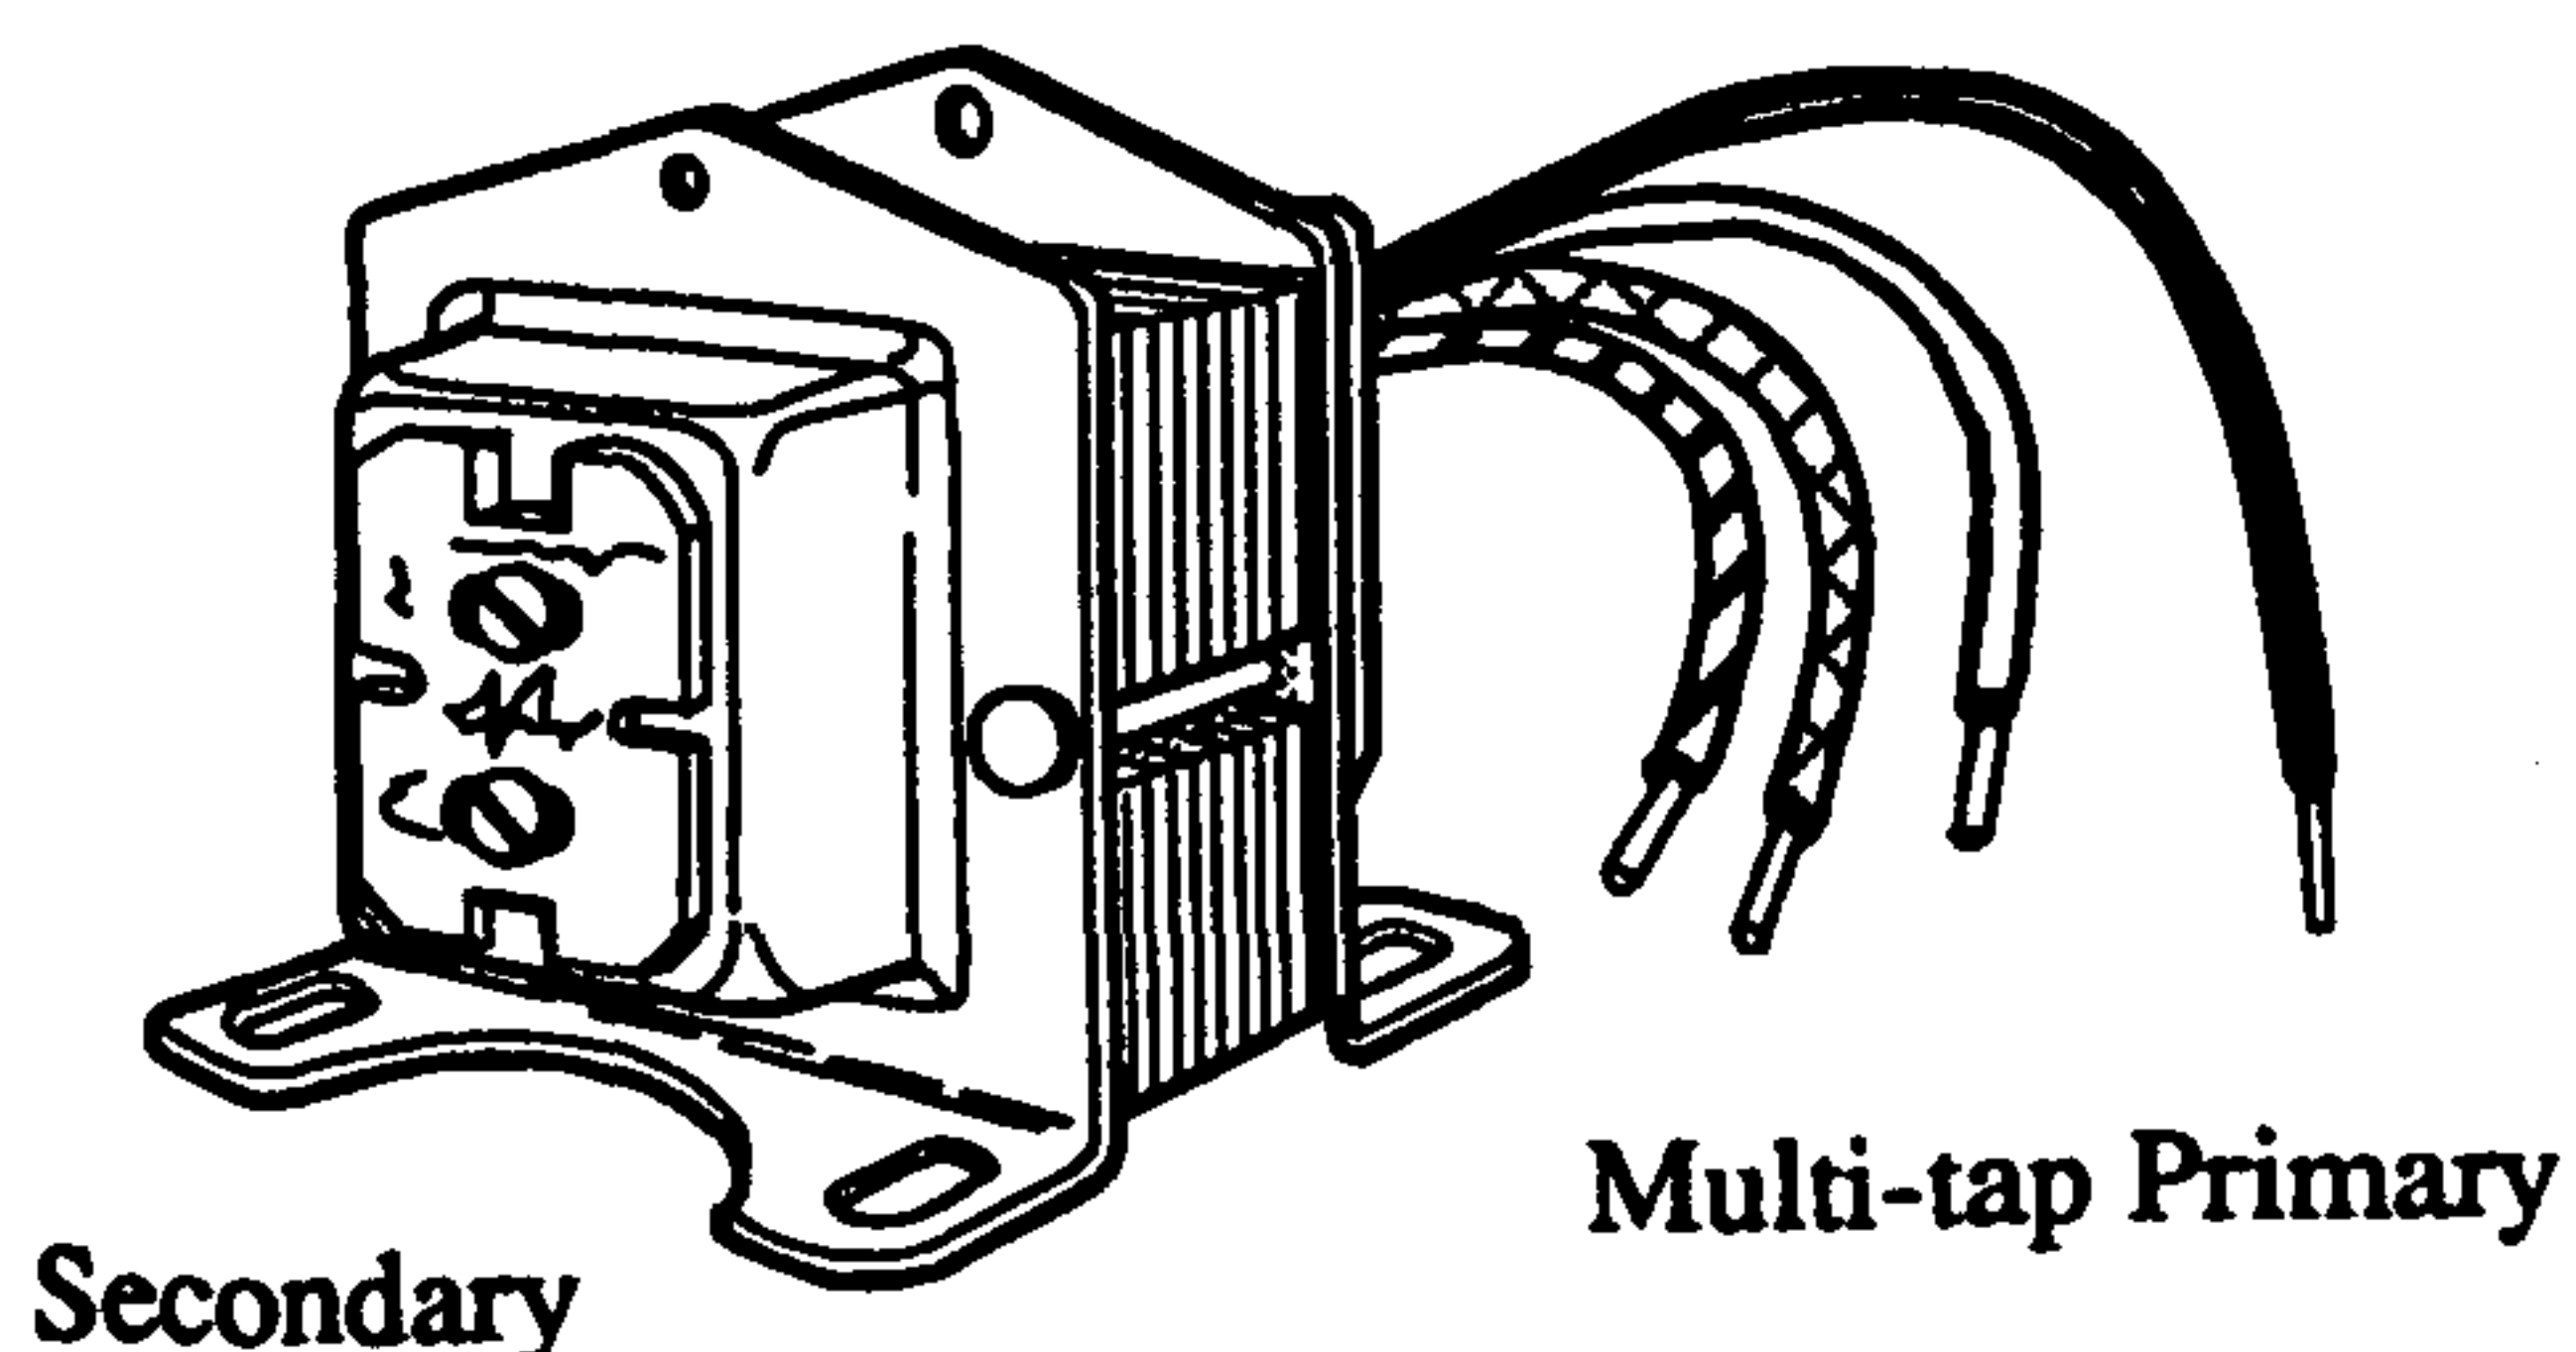
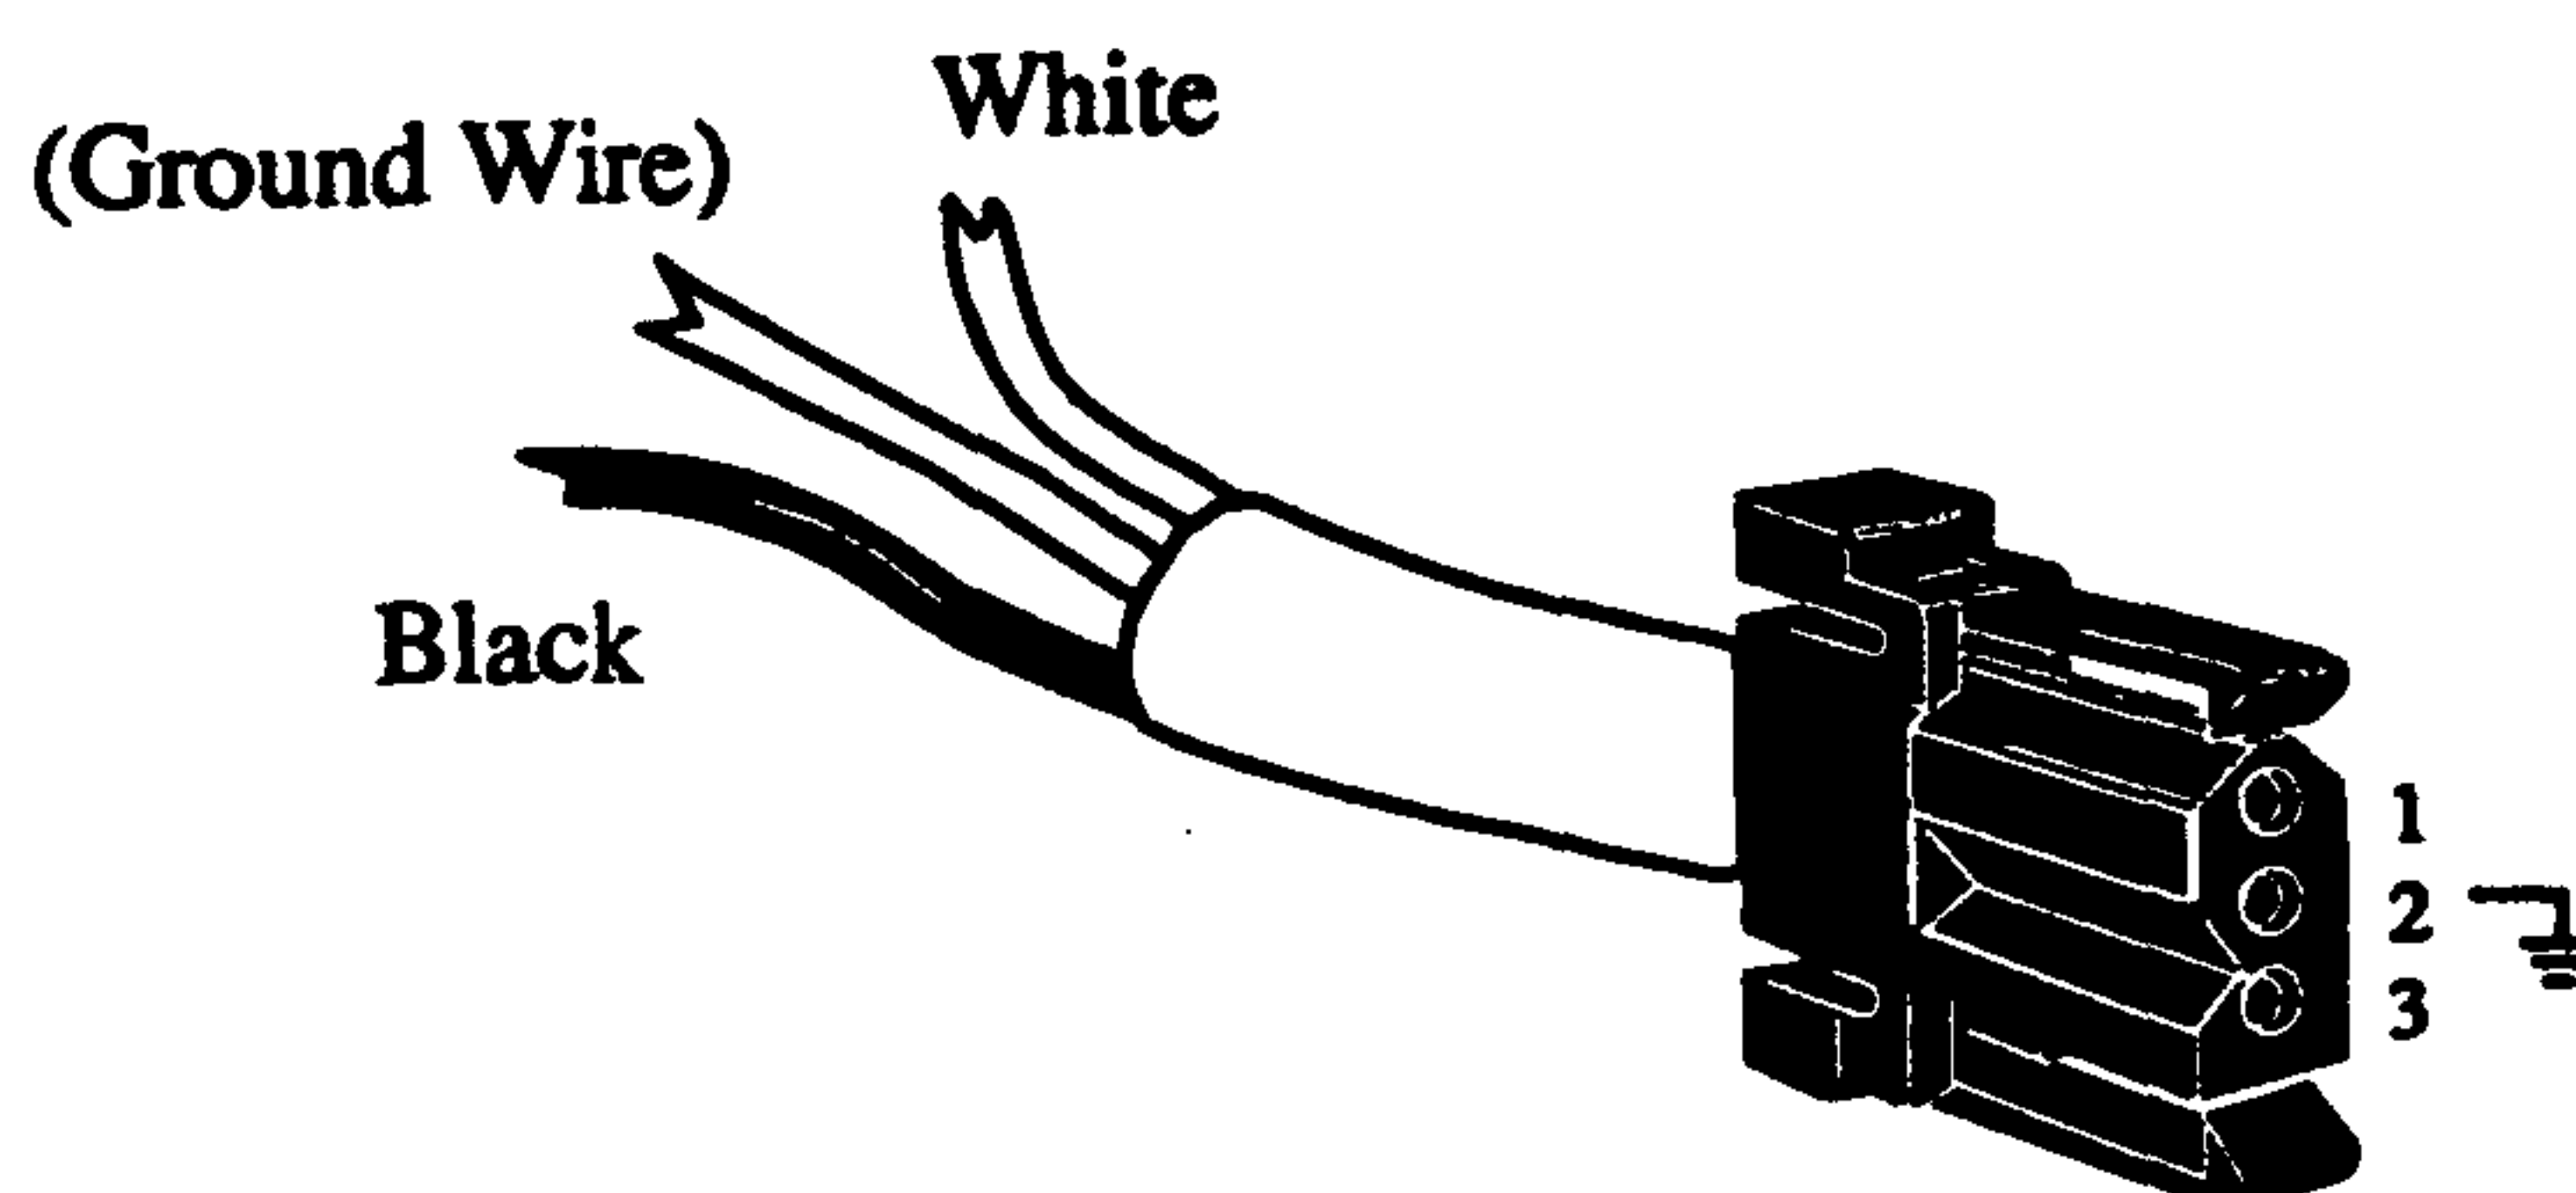

Figure 1-3. Control Transformer
Figure 1-4. 24V AC Power Plug Assembly
to 24V AC. See Figure 1-3. The transformer is connected to the clock assembly by the power plug assembly, Figure 1-4.
4. Using a digital voltmeter, verify 24V AC secondary supply across terminals 1 and 3 of the power plug assembly (see Figure 1-4). If the power supply is 21-30V AC, connect plug assembly into the side of the clock. When the Fibertronic Defrost Clock 1000 is first powered up, the initial display will read HUSSMANN.